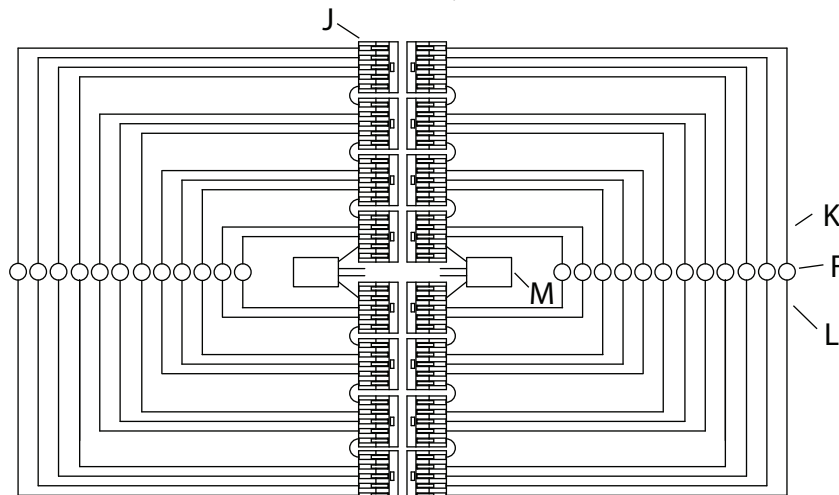
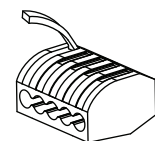

Fig. 3
Fig. 2
1. Shut off power to the outlet box (A).
2. Remove glass (B) from fixture (C).
3. Determine the height at which the fixture is to be hung. Use the screwdriver (D) to loosen the set screw (E). Feed the power cords (F) through the bushings (G) on canopy (H). Adjust the cord (F) to the desired length. Tighten the set screws to set.
4. Connect the fixture wires to the lever nuts (J) by pulling up on the lever for an empty slot (Fig. 2), inserting the wire, and pushing the lever back down to lock. The white inner conductor (K) and black outer conductor (L) on each cord (F) must be connected to separate lever nuts, as shown (Fig. 3).
5. Reserve transformers (M), extra cords (F) and lever nuts (J) in canopy (H).
6. Attach ceiling pan (N) to the outlet box (A), secure with outlet box screws (P). Use the slots (Q) and wood screws (R) to secure the ceiling pan into the ceiling joists.